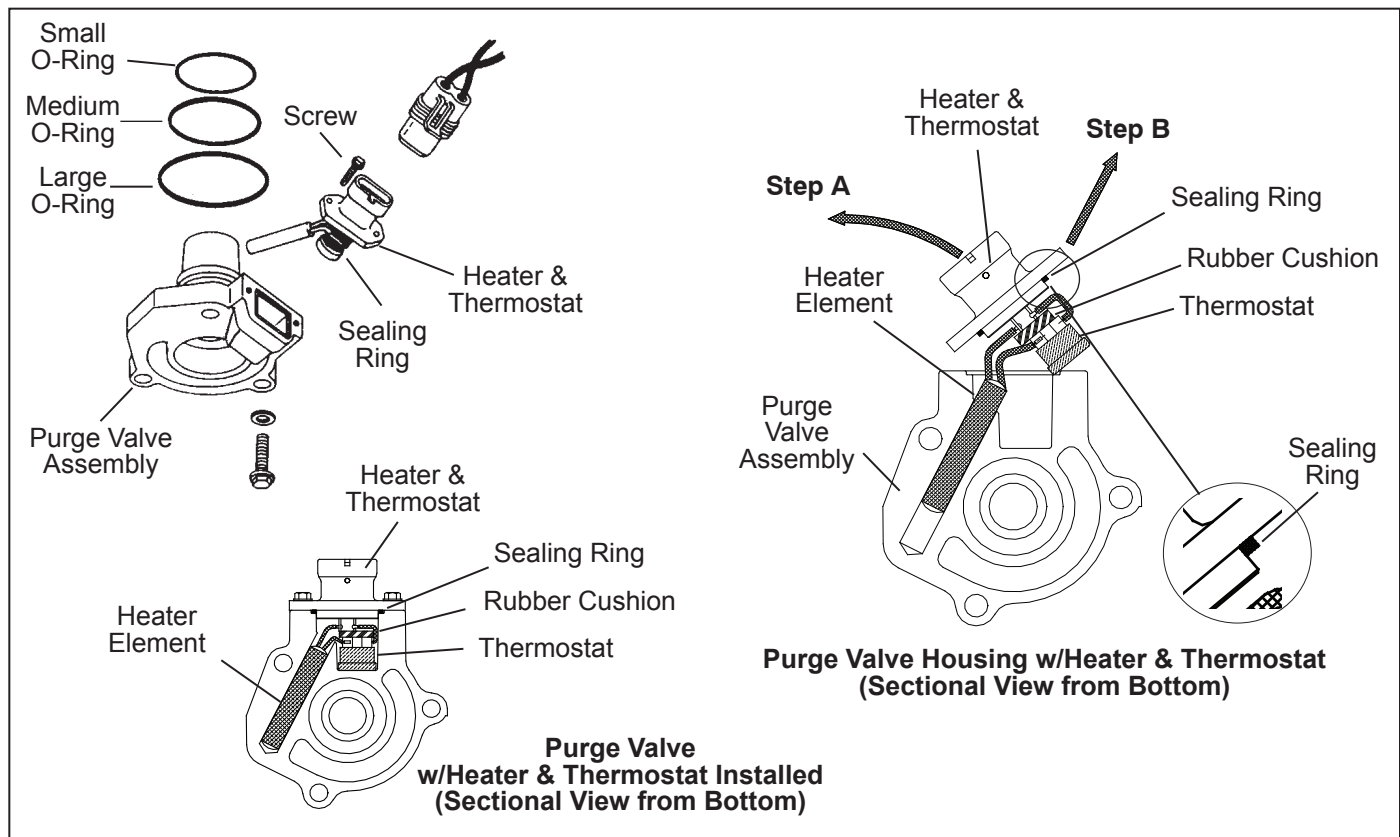

Figure 10 – Heater & Thermostat Removal and Installation
2. Study Figure 10 closely and note the "Y" shape of the Heater & Thermostat assembly in its installed position in the purge valve housing. As illustrated, remove the heater & thermostat assembly by gently "rotating" the connector to the left (Step A) until the thermostat clears the purge valve housing, then slide the heater element out, to the right and up (Step B).